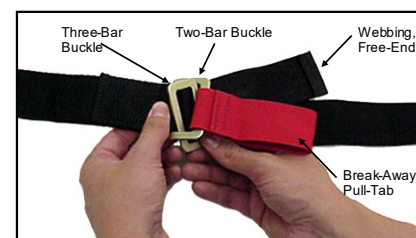

Figure 2, Fastening the Buckle
1. Pass the three-bar buckle and webbing upward through the opening in the two-bar buckle (fig. 2). Make sure to pull the free end of the webbing completely through the opening.